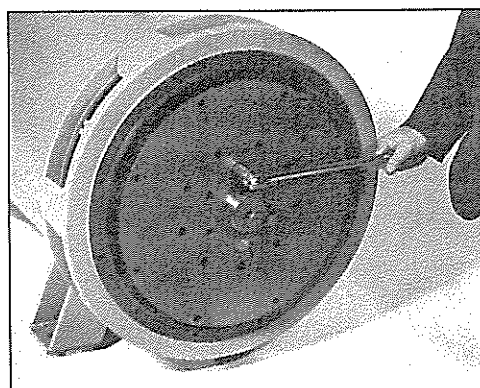

Figure 6-25
4. For single bearing generators, remove the cap-screws and hardened washers holding the drive discs to the drive hub (figure 6-25). Remove all drive discs (and spacers, if any).